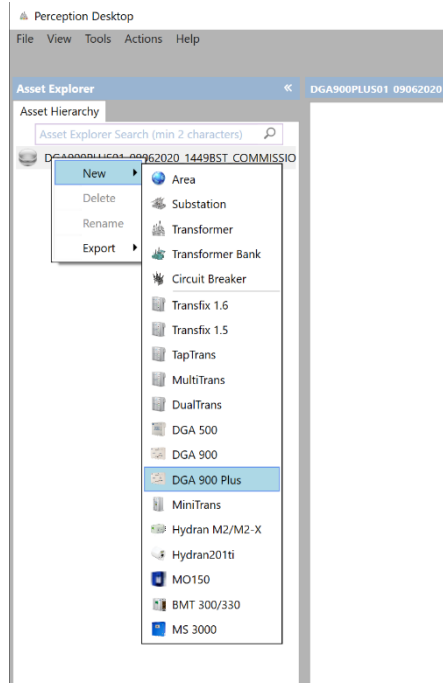

Figure 10-11: New > DGA 900 Plus database
4. In the Asset Explorer, right click on the newly created database and select **New > DGA 900 Plus** as shown in Figure 10-11.